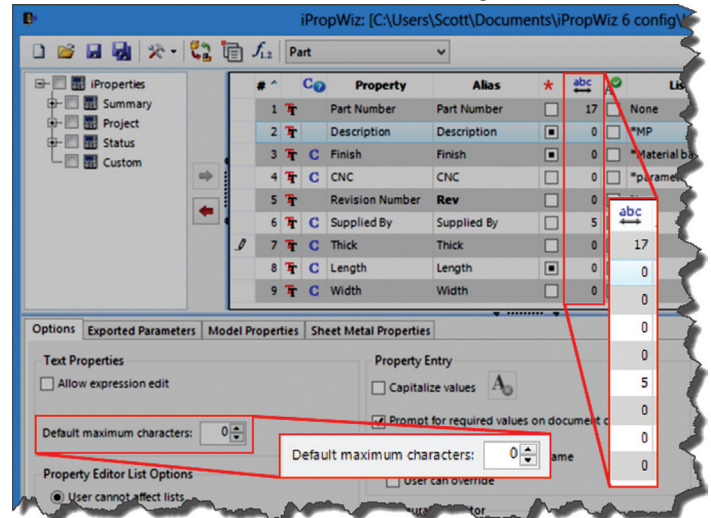

Figure 5: Maximum character settings
- + Maximum number of characters (see Figure 5).